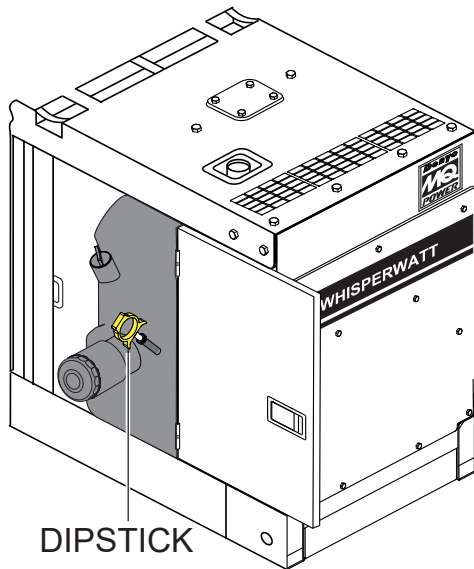

**Figure 29. UVWO Terminal Lugs
2. Connect the load wires to the UVWO terminals as shown in Figure 29.